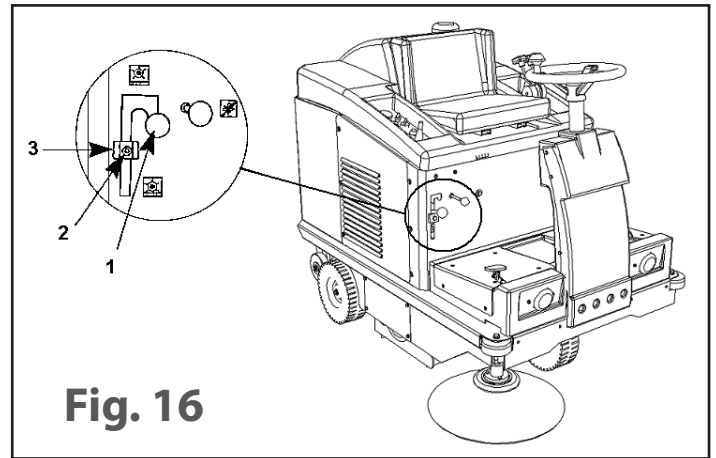

Fig. 16
- Position lever **Part. 1 Fig. 16** so that the central brush is raised.
- Loosen screw **Part. 2 Fig. 16**.
- Lower the adjuster **Part. 3 Fig. 16** by 3/4 mm or by the desired distance.
- Secure the adjuster by tightening screw **Part. 2 Fig. 16**
- Position lever **Part. 1 fig. 16** above the adjuster **Part. 3 fig. 16**.
- The central brush can be adjusted until the adjuster **Part. 3 fig. 16** reaches the end of stroke; after this, the brush must be replaced.